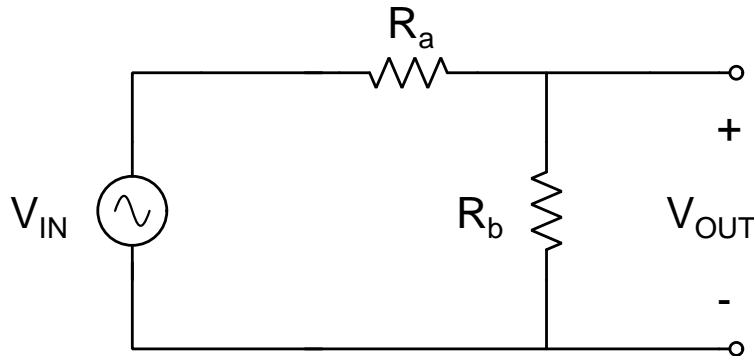
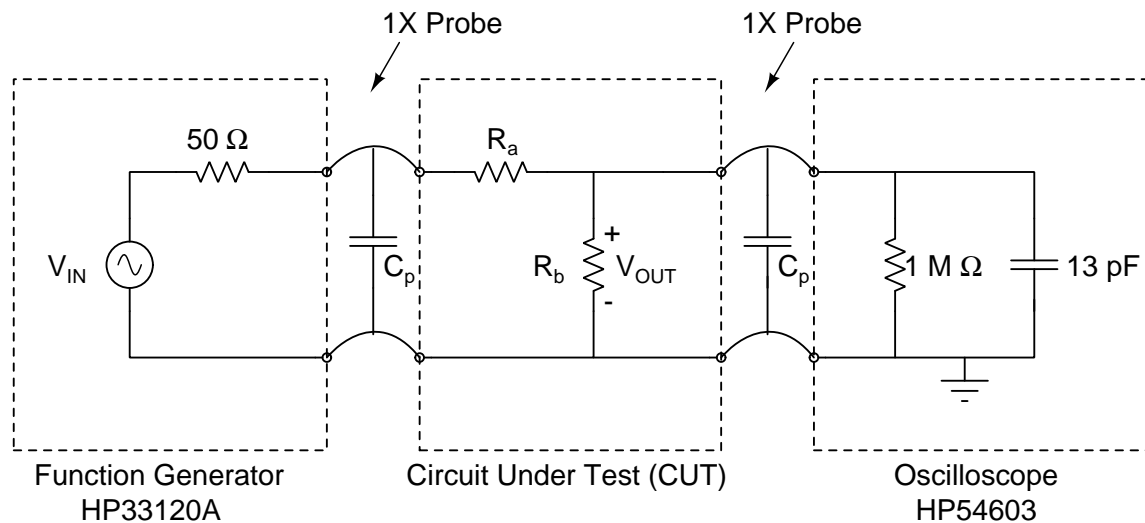

Figure 1: The circuit under test (CUT) is an ideal resistor divider circuit.
Figure 2: Measurement set-up for the resistor divider circuit.
Introduction In this lab you are to determine the voltage ratio, V_{OUT}/V_{IN} , produced by the voltage divider with resistors R_a and R_b shown in Figure 1.
This lab illustrates that the actual values of the components, and the impedances associated with the test equipment and cables, must be considered when determining the actual value of the voltage across a circuit element. All voltage sources, including batteries, have a finite source impedance. All measurement equipment, including oscilloscopes and digital voltmeters (DVMs), have a non-infinite input impedance that presents a load to the circuit. Cables that connect the circuit to the test equipment introduce additional impedances in the circuit. The schematic showing the circuit under test (CUT) connected to a function generator and oscilloscope is shown in Figure 2.
1. Use the Tenma 72-1025 LCR Meter to measure the capacitance of your 1X probes at a frequency of 1kHz. Make sure the capacitance meter is set to measure capacitance with series resistance. Also measure the Dissipation Factor (DF) of the probes at a frequency of 1kHz. Record these values in your notebook.
4. For each of the three pairs of resistors, place two resistors with the same value on the breadboard to make a series circuit as shown in Figure 1. If the resistors have slightly different values, make sure you keep track of which resistor is which.
9. Set the FG to generate a 1kHz sinusoidal signal with peak voltage $V_{IN} = 1V$. Verify both the frequency and peak voltage using the scope then connect the FG and scope to the resistors as shown in **Figure 2**.
For the voltage divider circuit, an estimate of the error introduced by the measurement apparatus can be obtained by comparing the values of V_{OUT} from an analysis of the circuit in Figure 1 with the values of V_{OUT} from an analysis of the circuit in Figure 2.
1. Derive an equation $V_{OUT1}(R)$ expressing the output voltage V_{OUT} as a function of the resistance R for the circuit of **Figure 1**. Do not include in the calculation the capacitance of the 1X probes, the output resistance of the FG and the input impedance of the scope.
2. Derive an equation $V_{OUT2}(R)$ expressing the output voltage V_{OUT} as a function of the resistance R for the circuit of **Figure 2**. Include in the calculation the capacitance of the 1X probes, the output resistance of the FG and the input impedance of the scope.
Use NGspice to simulate the expected output voltage V_{OUT} as a function of the resistance R for the circuit of **Figure 2**. Include in the simulation the capacitance of the 1X probes, the output resistance of the FG and the input impedance of the scope. A Matlab[®] template file (<https://goo.gl/tKLGnV>) and an hspc simulation file (<https://goo.gl/S8HLhn>) are available on the course website.